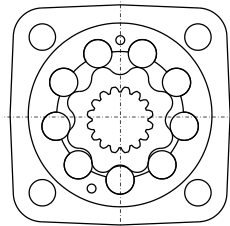

Fig.12
11. Stave the pin preliminarily into the stator. Orientate the roll-gerotor set acc.to Fig.12 and assemble the rotor splines into the cardan shaft splines (if necessary, rotate slightly shaft for keeping symmetry of rotor towards stator).